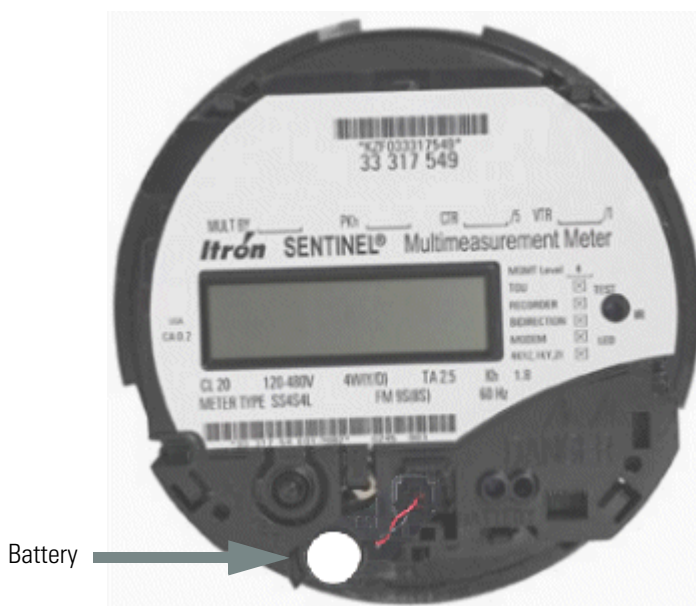

Figure 2.5 Battery Installed
- 3 Plug the connector housing with the installed battery connector back into the front of the meter faceplate (upper housing), and then snap the battery into the side support of the meter as shown in Figure 2.5.